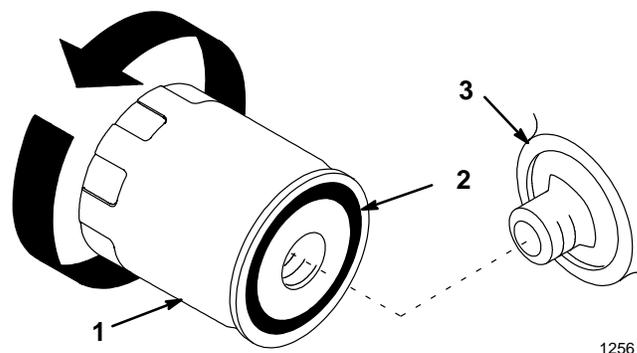

Figure 34A
- Remove the old filter and wipe the filter adapter (Fig. 34A) gasket surface.
- Apply a thin coat of new oil to the rubber gasket on the replacement filter (Fig. 34A).
- Install the replacement oil filter to the filter adapter. Turn the oil filter clockwise until the rubber gasket contacts the filter adapter, then tighten the filter an additional 1/2 turn (Fig. 34A).